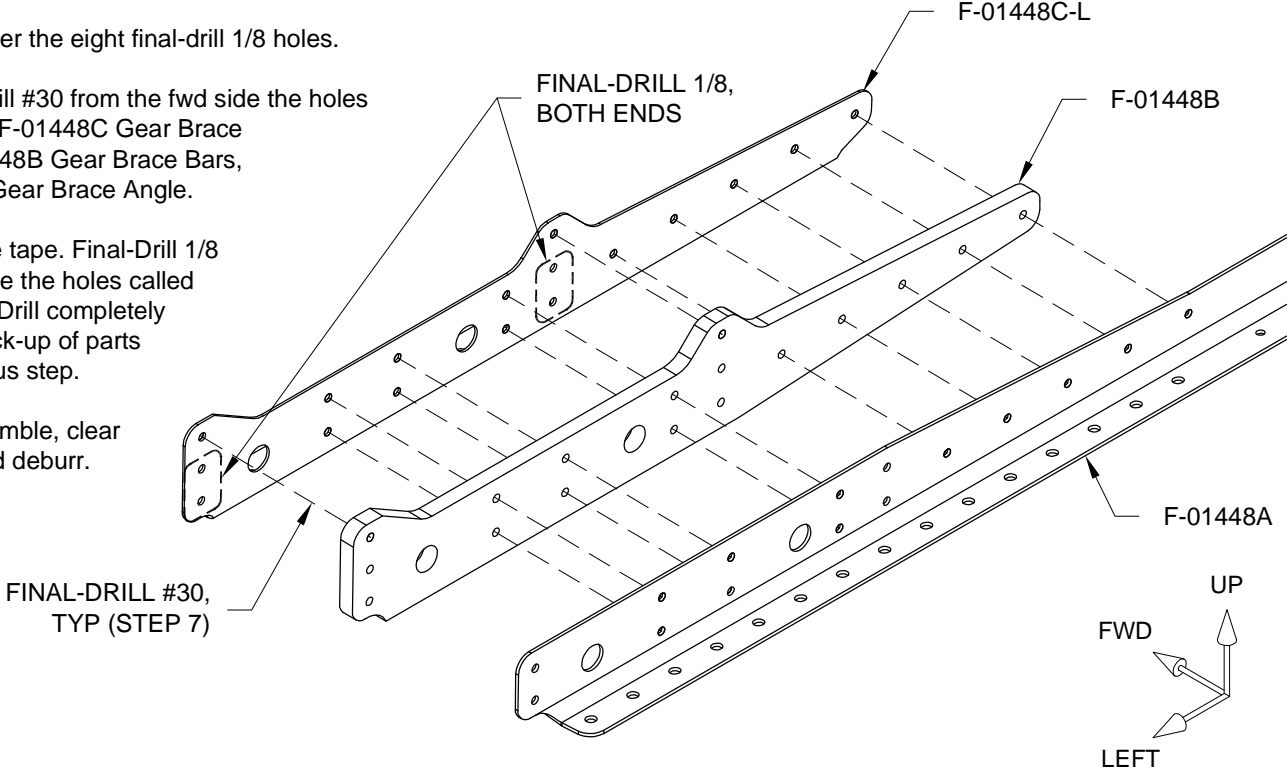

FIGURE 3: FINAL-DRILL
Step 5: Cleco together the F-01448C-L & -R Gear Brace Brackets, F-01448B Gear Brace Bars, and F-01448A Gear Brace Angle as shown in Figure 3.
Step 8: Remove tape. Final-Drill 1/8 from the fwd side the holes called out in Figure 3. Drill completely through the stack-up of parts as in the previous step.
Step 13: Cleco together the F-01448C-L & -R Gear Brace Brackets, F-01448B Gear Brace Bars and the F-01448A Gear Brace Angle as shown in Figure 3 above.